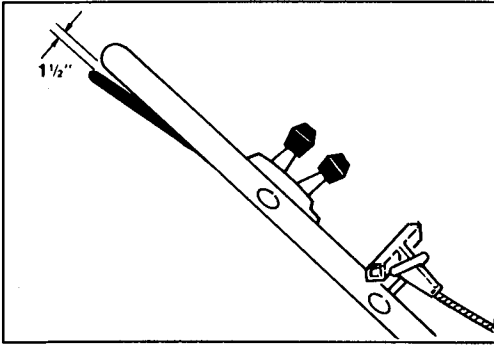

Figure 23
3. CHECK ADJUSTMENT—With engine running, and ground speed control in 1, 2 or 3, slowly pull mower backwards while control bar is gradually moved toward handle. Adjustment is correct when rear wheels stop turning and control bar is about 1-1/2 inches from handle (Fig. 23).